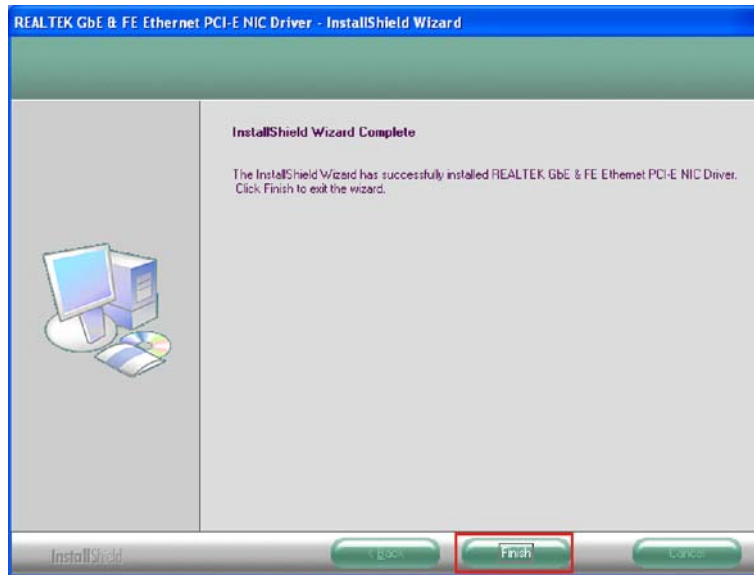

Figure 7-19: LAN Driver Installation Complete
Step 9: When the driver installation is complete, the screen in **Figure 7-19** appears.
Step 10: Click **FINISH** to exit the InstallShield Wizard (**Figure 7-19**).